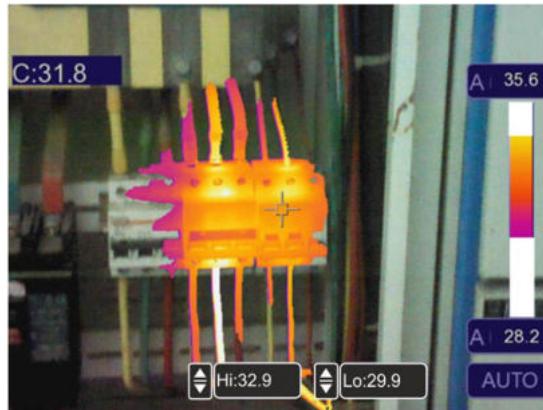

Fig. 43: Selection of Visible range
11. Touch the “Hi” and “Lo” fields at the bottom of the display and use the arrow keys ▲ or ▼ to set the value of the **maximum** and **minimum** temperature threshold. The instrument shows as radiometric IR image the spots with a temperature between the “Lo” and the “Hi” threshold, and as a visible image the spots with a temperature outside that range (see Fig. 43).